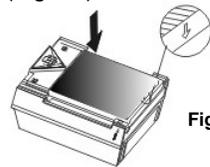

Fig. 13
6. Insert the new HEPA filter into the air purifier with the arrow pointing down. (Fig. 13)